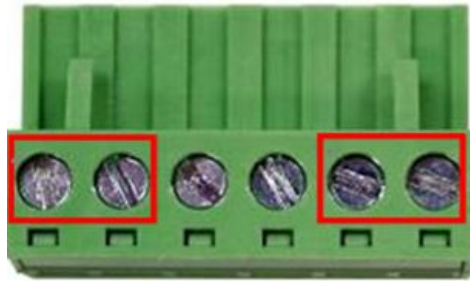

Figure 2.13 - Power Terminal Block
2. Tighten the wire-clamp screws to prevent the wires from loosening, as shown below in *Figure 2.13*.